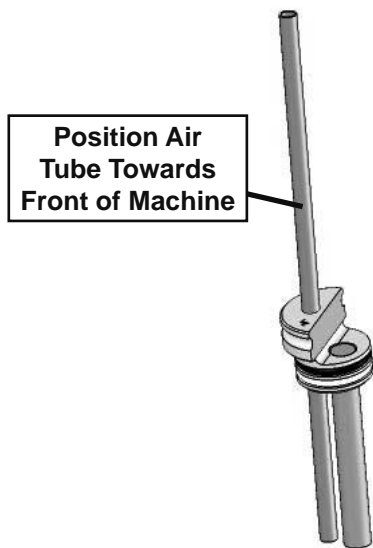

Figure 3-7 Mix Inlet Regulator
1. With the standard style (Fig 3-7), insert it with the air tube towards the front of the machine.